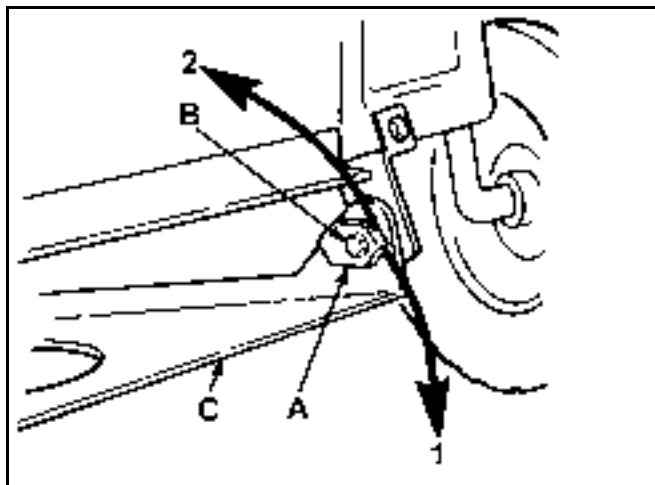

Figure 210
8. Adjust the front-to-rear slope by rotating the special slope adjusting nuts on both sides of the mower pivot mount (Figure 210).
9. Using a 1 in. wrench or socket, slowly rotate the left side slope adjusting nut down to raise the front of the mower and up to lower it (Figure 210). Rotate the slope adjusting nut until the front of the mower is 1/4 to 5/8 in. (6 to 16mm) lower than the rear of the mower.